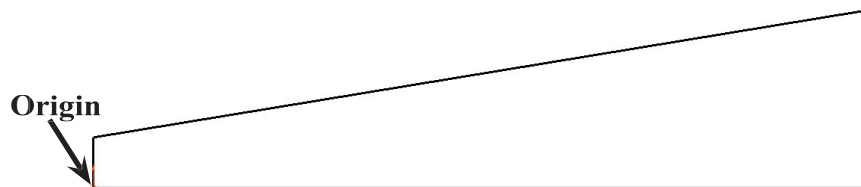

Fig. 3
Step 2. Click **Line**  (L) on the Sketch toolbar.
Step 3. Starting at the Origin  draw the sketch in **Fig. 3**. Use the inferencing line, the dotted line that appears when you draw the lines to keep the side lines vertical and the bottom line horizontal, **Fig. 3**. Do not add any extra lines. If you make a mistake, use Undo, **Ctrl-Z**.
Step 4. Click **Fully Defined Sketch**  (D) on the Sketch toolbar.